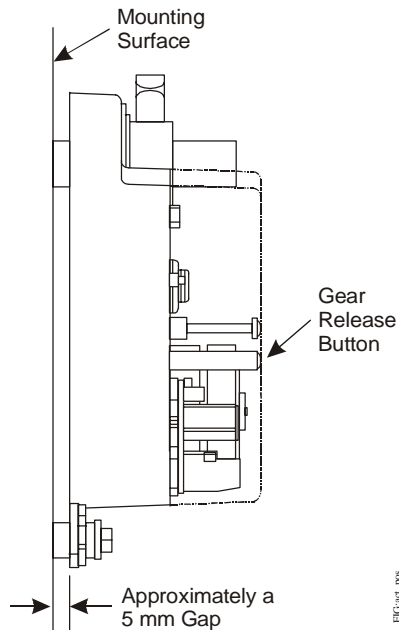

Figure 5: Positioning the Actuator
- Be certain that the actuator is in the desired mounting position parallel to the mounting surface, as illustrated in Figure 5.